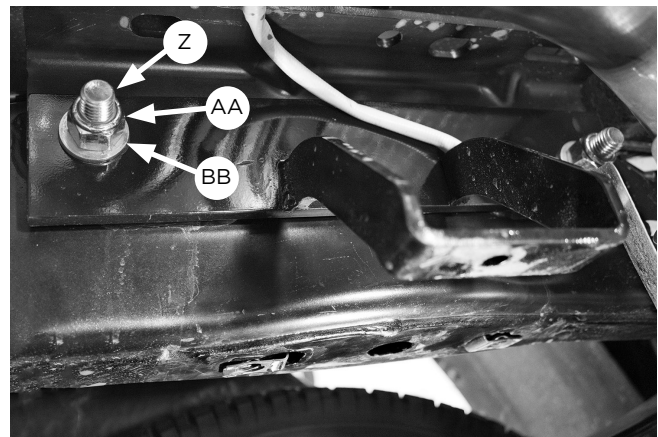

Fig. 26
- Remove the factory fifth wheel hitch hardware (if equipped), from the holes in the side of the frame. Using the existing holes in the frame, attach the upper frame brace (F) to the frame using the factory hitch hardware removed or the 5/8" (Z, AA, BB) hardware supplied (Fig. 26). Leave loose at this time.